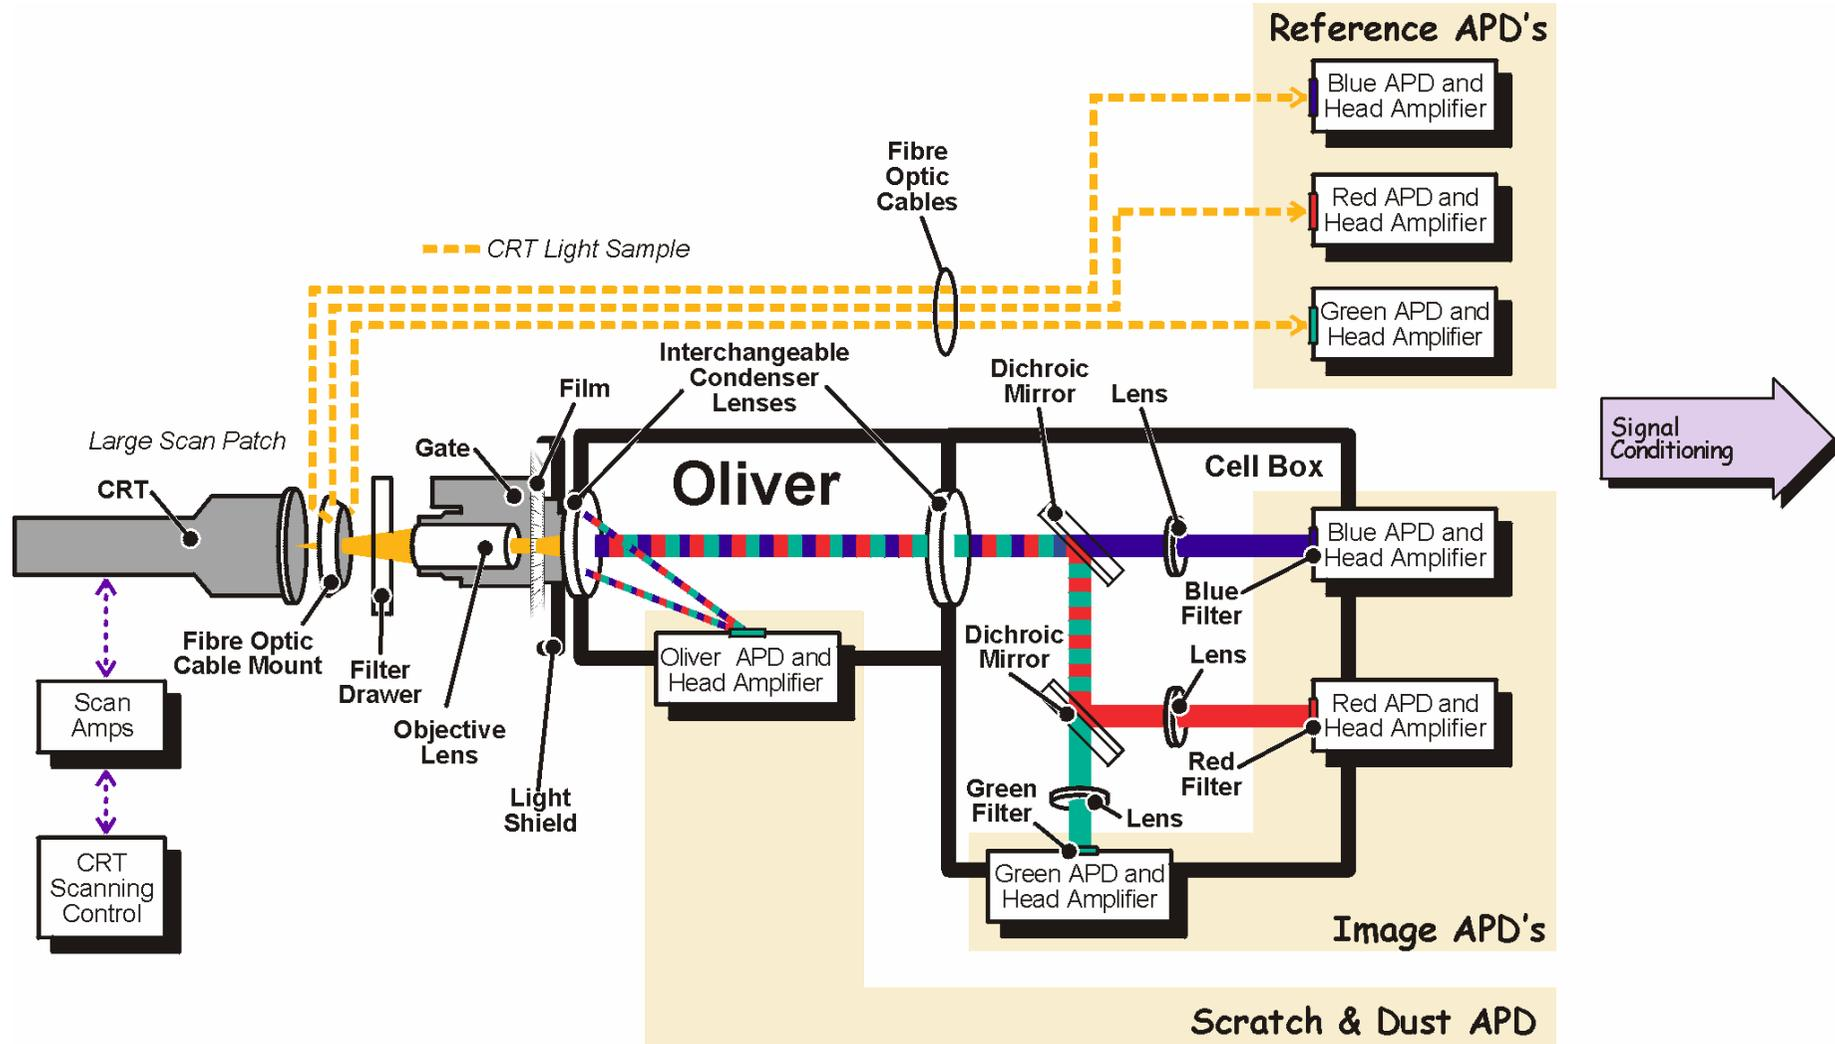

Figure 3 - Film Scanning System Block Diagram
| Film Scanning System Block Diagram | Figure 3 |
The Film Scanning System scans the moving film as it passes through the vision gate. The modulated light produced by the different film image densities is processed by Oliver (See Oliver supplement for details) to recover image data from scratches and dust and is then separated into its red, green and blue constituent colours. The light is then converted into electrical signals by (A)valanche (P)hoto (D)iodes. The system consists of a digitally scanned high quality thick faceplate CRT and a simple optical arrangement with colour splitters and filters as shown in Figure 3. Using this system image resolution is only limited by the optical path and the CRT spot size.